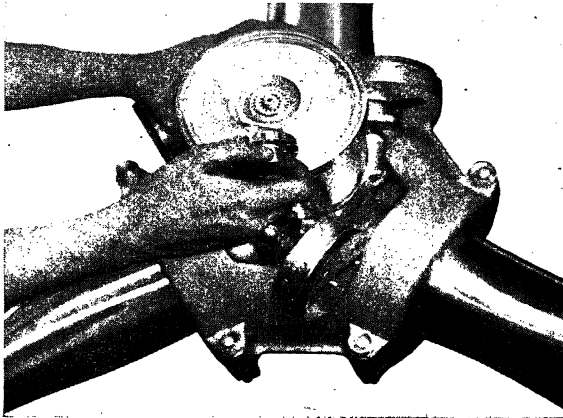

FIG. 10.—Putting the vernier lock plate in place.
21. Lock the cylinder head to the spring puller bolt by means of the vernier lock plate. By turning the vernier one cog at a time, a combination will be found that will allow the vernier to be pushed in place. The groove and ring on one side of the vernier are to facilitate its removal and should be towards the front (see Fig. 10).